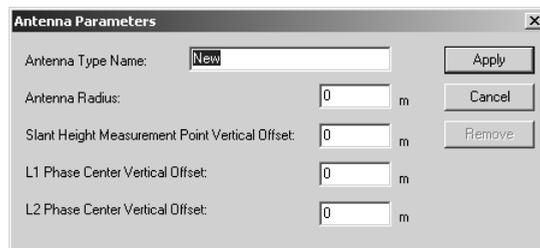

Figure 5.7. Antenna Parameters Dialog Box
3. Click the **Define** button  to open the **Antenna Parameters** dialog box (Figure 5.7).
4. Click the **Define** button  to open the **Antenna Parameters** dialog box (Figure 5.7).
5. Click **OK** to open the **Adding Points** dialog box(Figure 5.7).